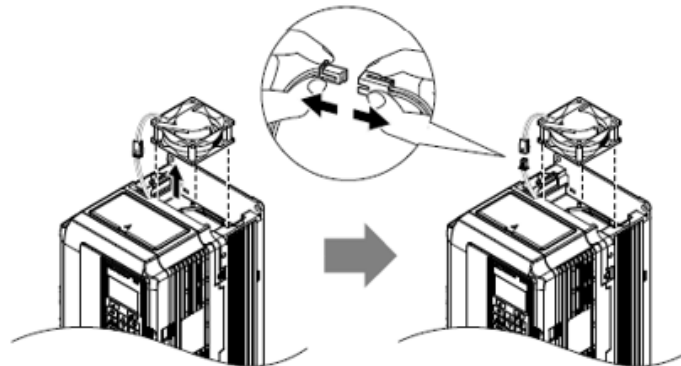

Figure 9-8 VFD Fan Disconnect
3. Remove the cooling fan module. Disconnect the individual plug connector and remove fan(s) per Figure 9.8.